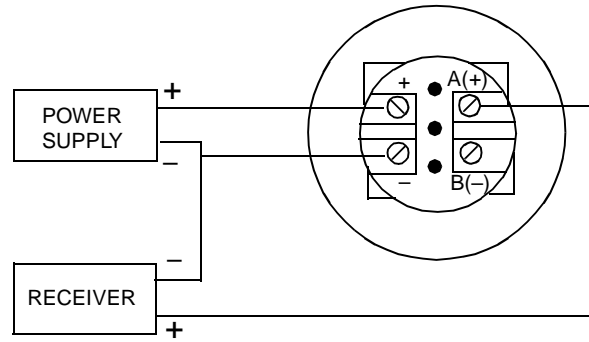
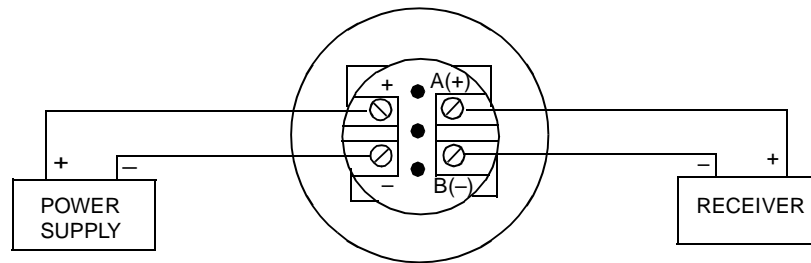

Figure 14. Three-wire Connection
Figure 15. Four-wire Connection
For relatively short wiring runs having low resistance, three-wire connections as shown in Figure 14 can be used to minimize wiring costs. However, a voltage drop in the common lead carrying the power supply current causes an error in the 1 to 5 V dc signal.
For wiring runs with high resistance (due to long lengths or other reasons) or for maximum accuracy, a four-wire connection as shown in Figure 15 can be used to provide input-output isolation. With four-wire configuration, voltage drop in the power supply loop does not affect measurement accuracy.
6. Connect the power supply and receivers (such as controllers, recorders, indicators) as shown in Figure 14 or Figure 15. Typical loop wiring is shown in Figure 16.